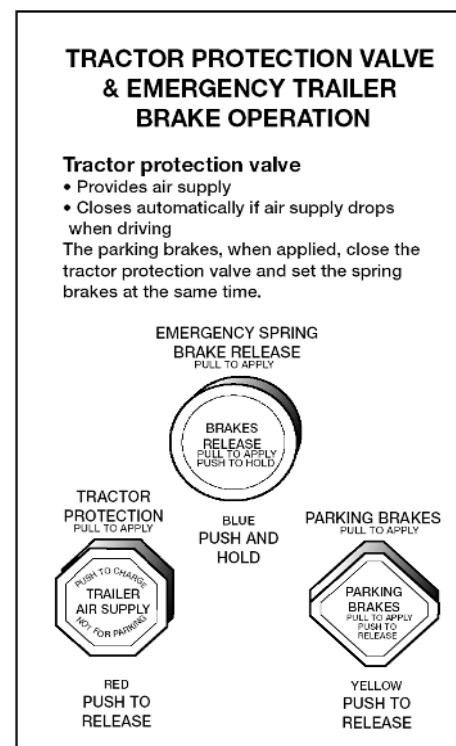

Figure 5.3
**Dual Parking Control Valves.** When main air pressure is lost, the spring brakes come on. Some vehicles, such as buses, have a separate air tank which can be used to release the spring brakes. This is so you can move the vehicle in an emergency. One of the valves is a push-pull type and is used to put on the spring brakes for parking. The other valve is spring loaded in the "out" position. When you push the control in, air from the separate air tank releases the spring brakes so you can move. When you release the button, the spring brakes come on again. There is only enough air in the separate tank to do this a few times. Therefore, plan carefully when moving. Otherwise, you may be stopped in a dangerous location when the separate air supply runs out. See Figure 5.3.